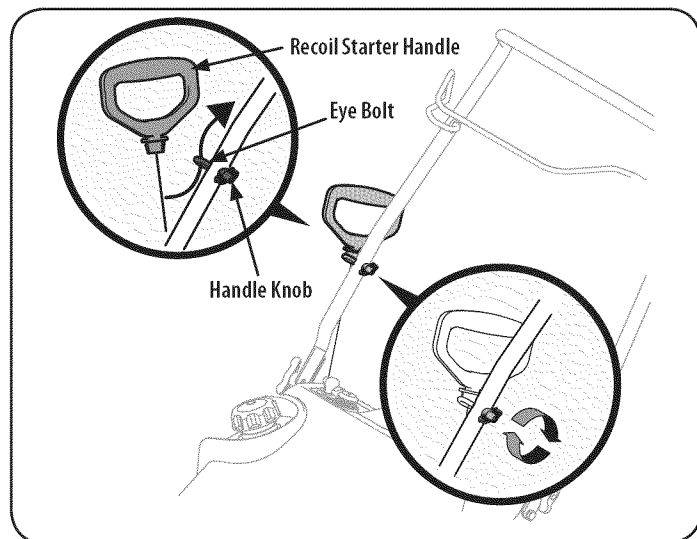

Figure 6
- Place the eye bolt and handle knob on the upper handle as shown in Figure 6. Do not fully tighten the hardware until instructed to do so.
- Slip the recoil starter rope into the eye bolt from the back side of the snow thrower. See Figure 6.